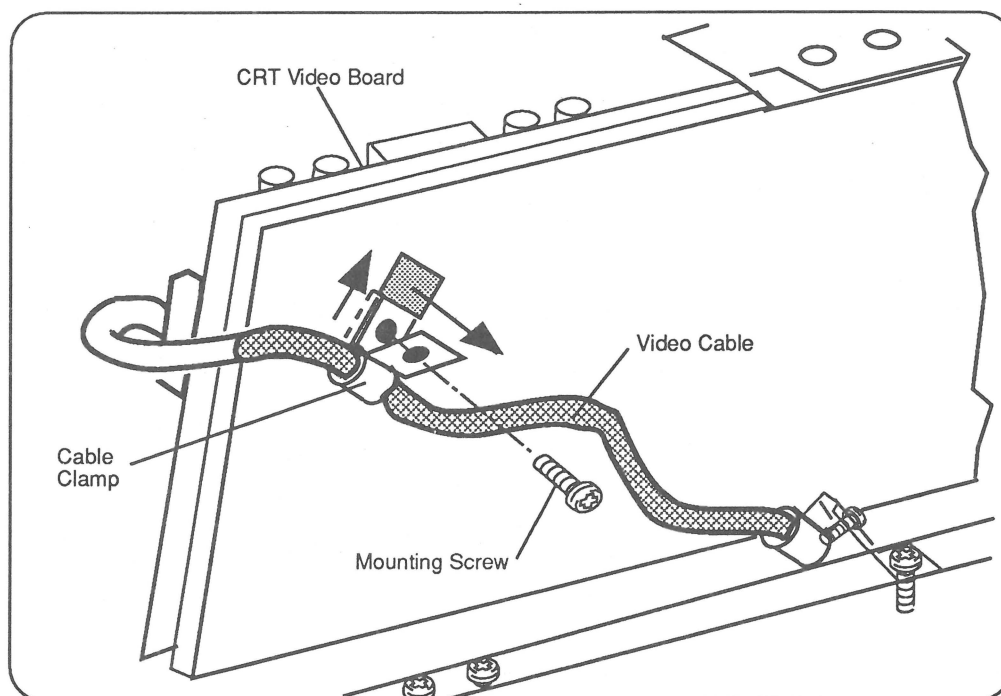

Figure 2-6 Removing the Video Cable from the CRT Video Board
3. **Figure 2-6.** Remove the screw that secures the video cable to the cable clamp at the back of the CRT video board. Remove the video cable from the clamp, and remove the clamp from the video board.